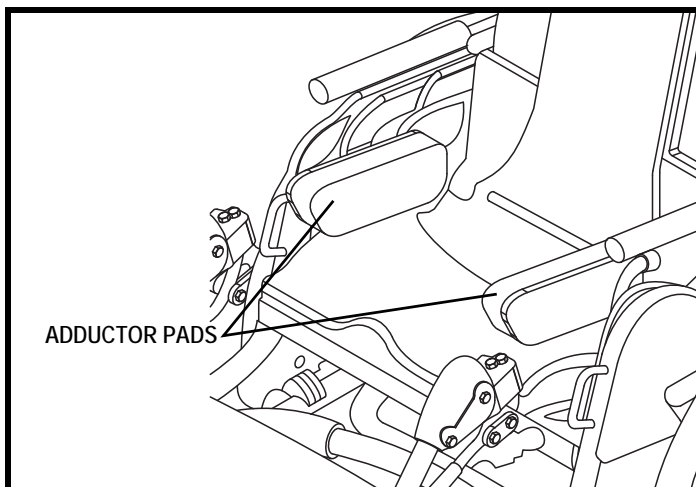

Figure 36. Kids ROCK 2 and ROCK 3 Hip Width Adjustment
4. Hip width can be adjusted by adding or removing layers of 0.25-in. (0.64-cm) foam from adductor covers. See **figure 36**.